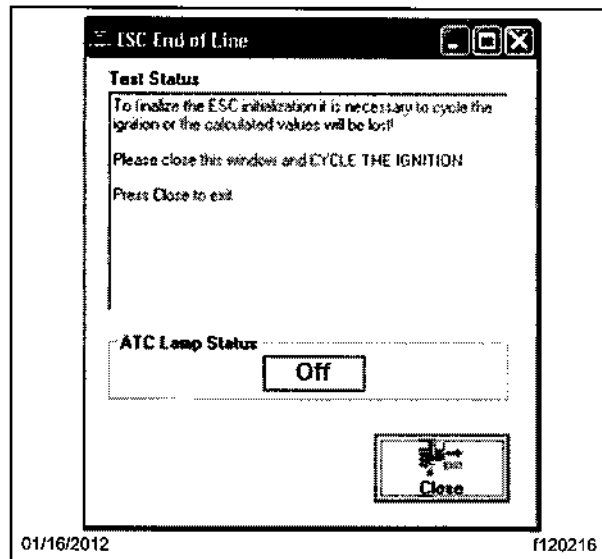

Fig. 19, Finalizing the ESC Initialization
- Read the message box and follow the instructions very carefully. Click "Close." Fig. 19. If the data connection to TOOLBOX® is lost, click on the "Restart ECU" menu item.
- If the calibration was not successful, contact Meritor OnTrac, (866) 668-7221, for assistance. Follow the advice given. When the calibration is finished successfully, clean a spot on the base label (Form WAR259) and attach a completion sticker for Recall FL612 (Form WAR260) to the base label. If additional labor was required, request the additional repair time in WSC or OWL as appropriate for your location.